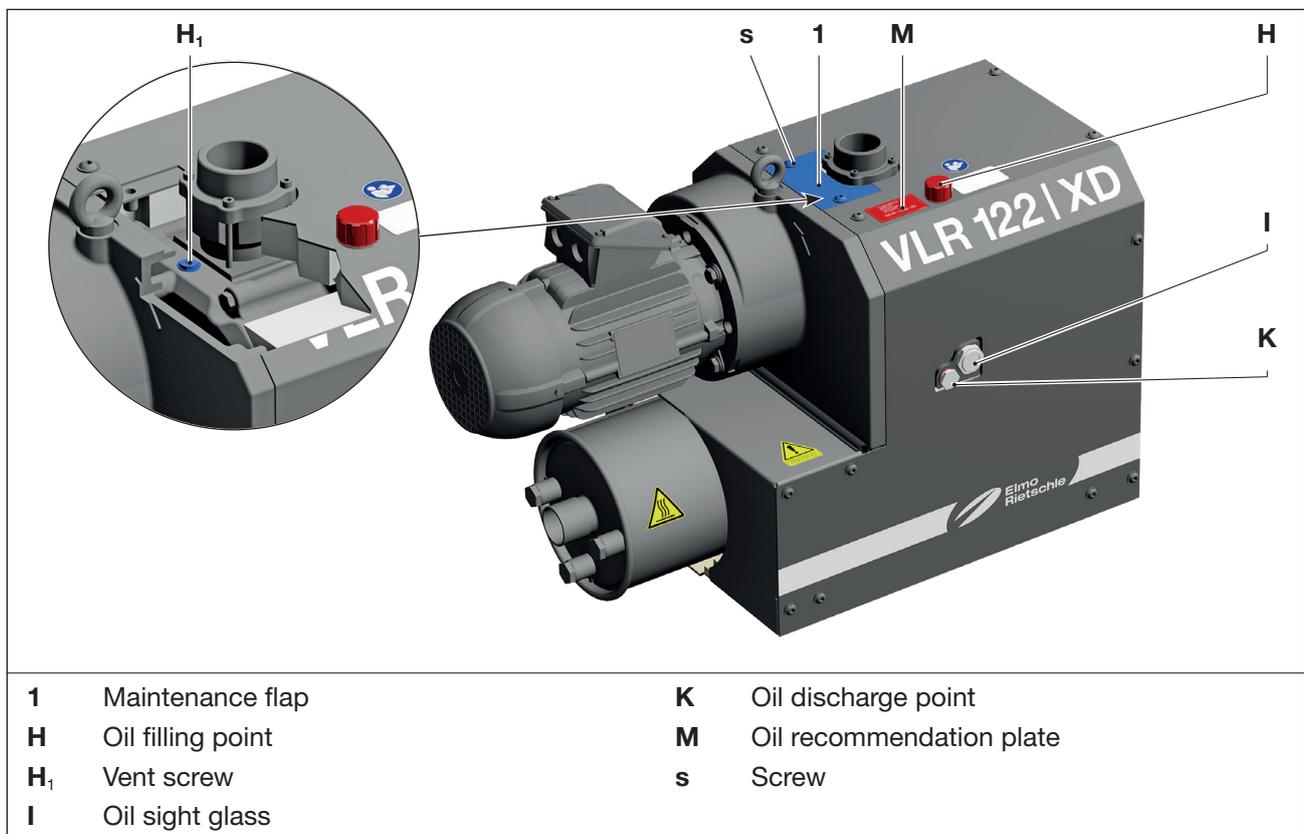

Fig. 8 Oil change
Check the oil level in the sight glasses (Fig. 8/l) every month.
- b) Remove two screws (Fig. 8/s) on the maintenance flap (Fig. 8/1) and remove the maintenance flap.
- c) Open the vent screw (Fig. 8/H1).
- d) Open the cap of the oil filling point (Fig. 8/H) and refill oil until it reaches the upper edge of the sight glass (Fig. 8/l).
- c) Open the vent screw (Fig. 8/H1), open the oil discharge point (Fig. 8/K) and completely discharge the used oil.
- d) Close the oil discharge point (Fig. 8/K) and fill in new oil through the oil filling point (Fig. 8/H). Check the oil level in the sight glasses (Fig. 8/l).